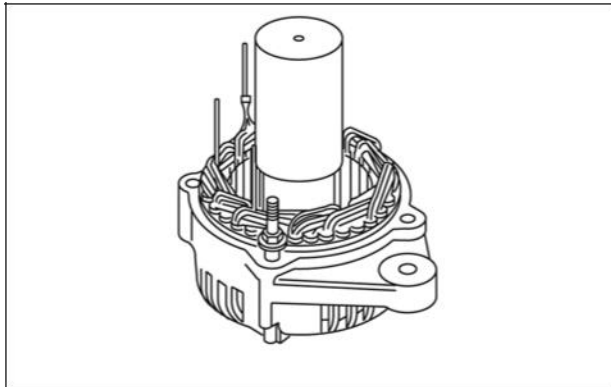

Figure 28
1. Set the meter to the +))))) position and check for continuity between slip rings (Figure 28).